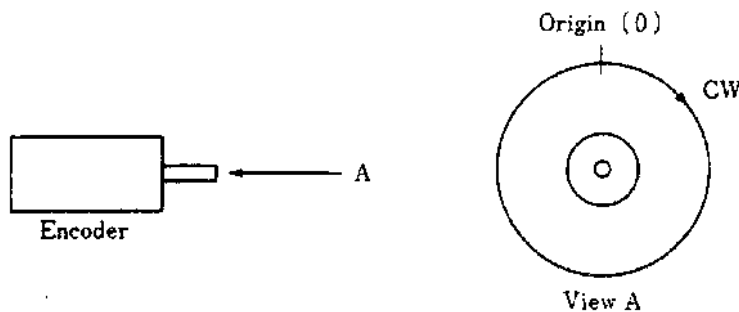

Fig. 7.9 Direction of Encoder Rotation
The forward rotation of the encoder is clockwise (CW) when viewed in the direction of arrow in Fig. 7.9. The forward rotation of the motor is counterclockwise (CCW) when viewed at the load shaft end.